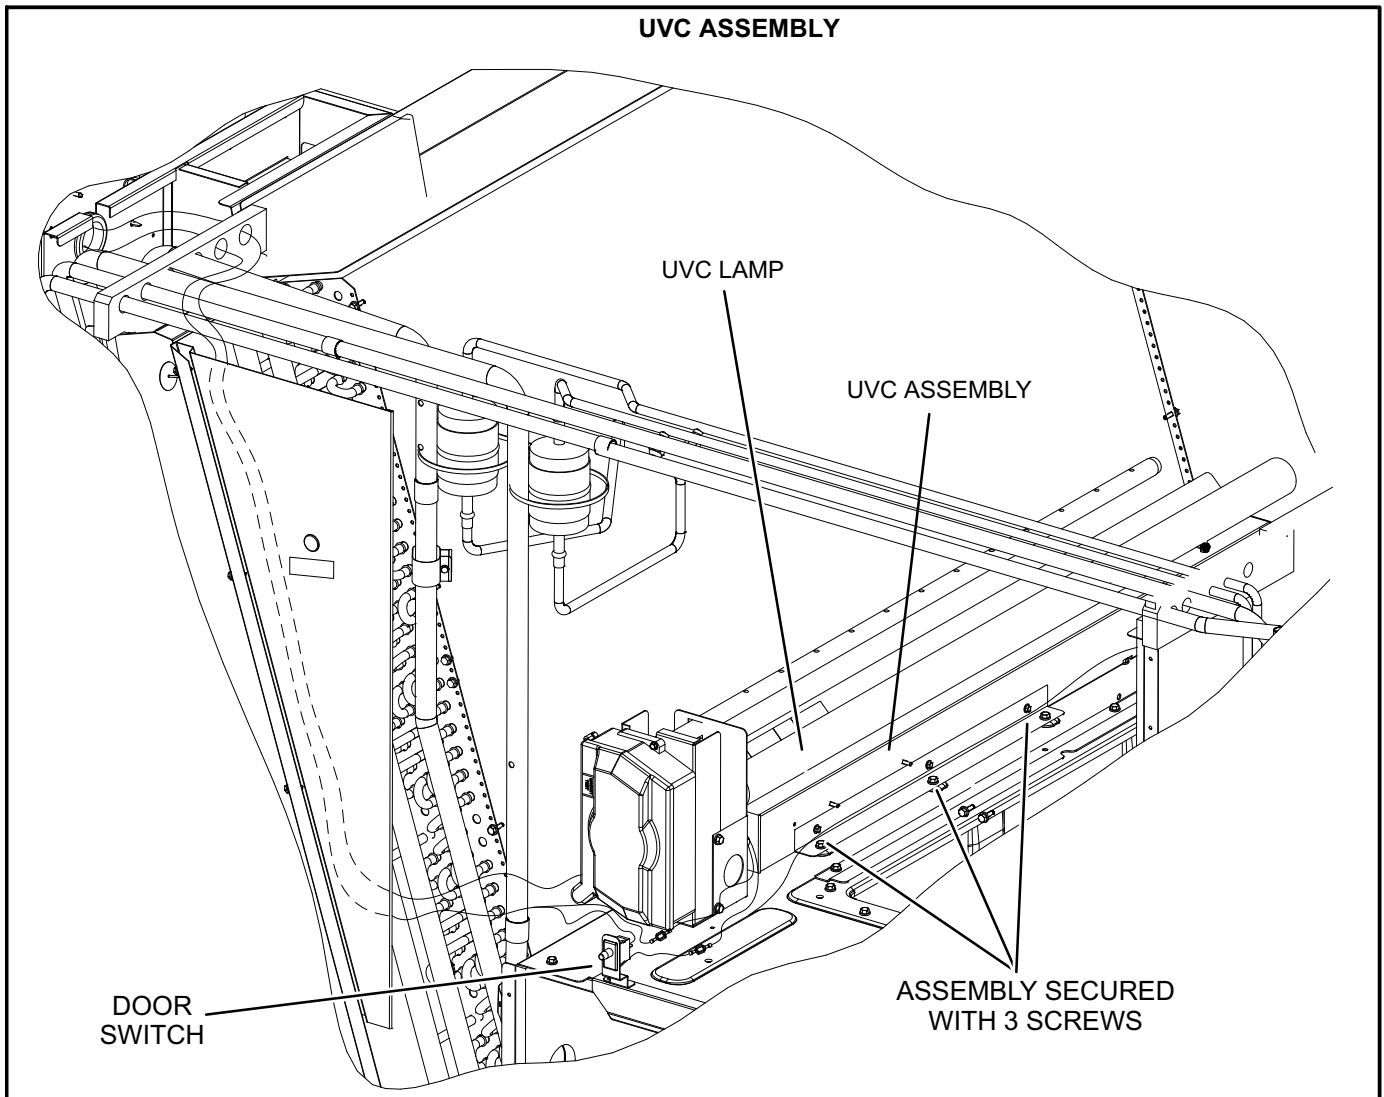

FIGURE 37
When the UVC light is factory installed, the lamp is shipped in a foam sleeve. The lamp is attached to the UVC light assembly on the blower deck. See figure 37. Remove the lamp and install into the UVC light assembly as shown in steps 2 through 11.
- 5- Remove and retain the (3) screws securing the UVC assembly. Carefully slide the complete UVC assembly out through the blower access door. See figure 37.
- 8- Carefully place the UVC assembly on the blower deck. Line up the mounting holes on the UVC assembly with the mounting holes on the blower deck. See figure 37. Use the retained screws provided to attach the UVC assembly in place.